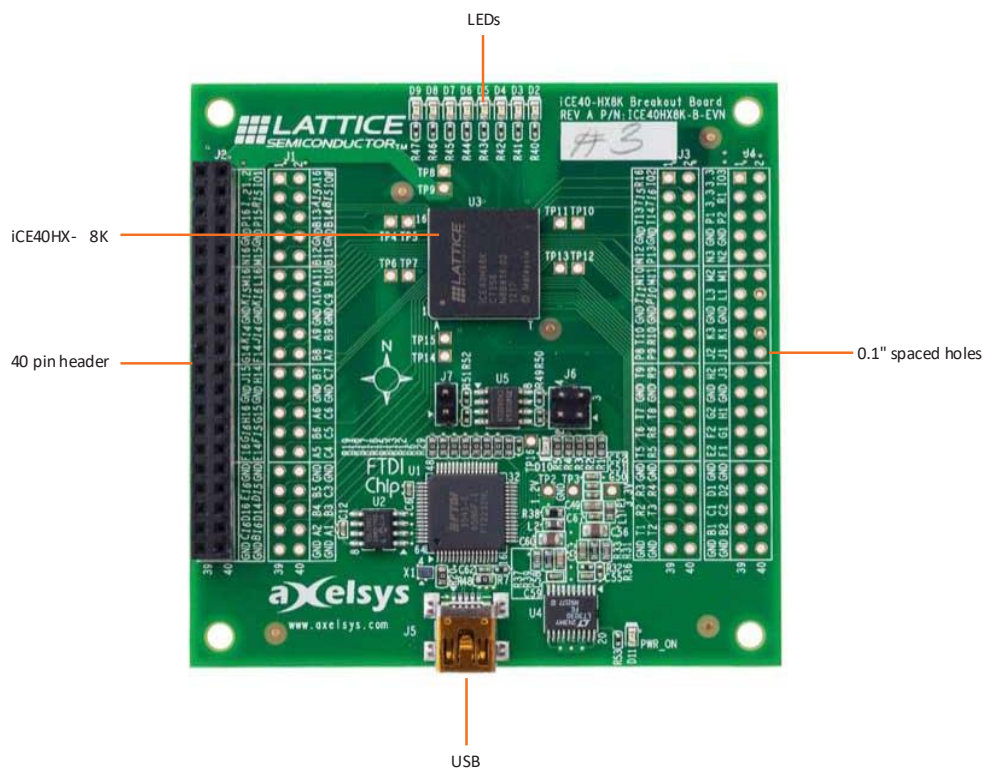

Figure 2.1. Top Side of the iCE40HX-8K Evaluation Board
- USB connector Cable – A mini B USB cable for programming the SRAM fabric of the iCE40HX-8K or the onboard SPI flash. The USB cable also powers the iCE40HX-8K evaluation board. **Figure 2.1** shows the top side of the iCE40HX-8K Evaluation Board indicating the specific features that are designed on the board.